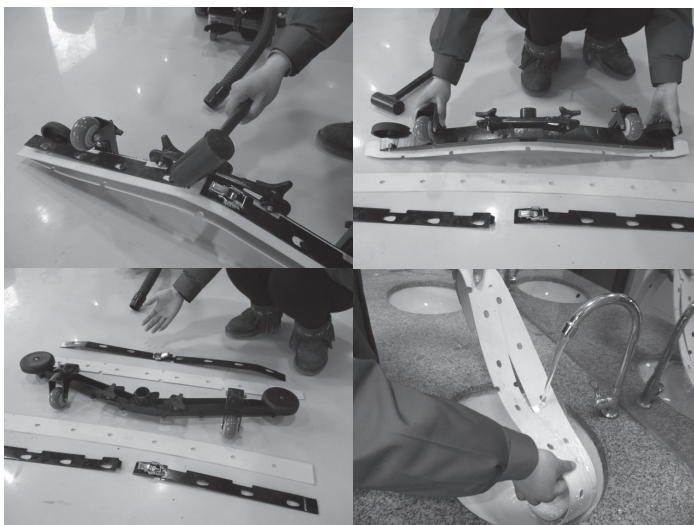

Figure 32
5. Cleaning squeegee blade (Figure 32). Lift the squeegee assembly to avoid damages to the blade.